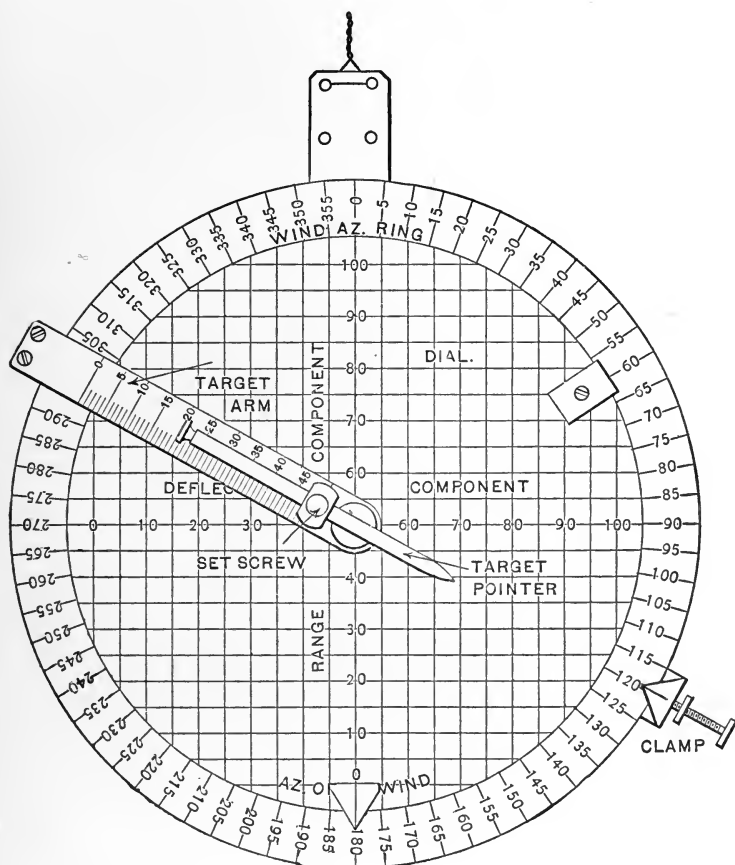

FIG. 75.
- 4° Components are now read on dial from the point indicated by the *target-pointer*. (See Fig. 75.)